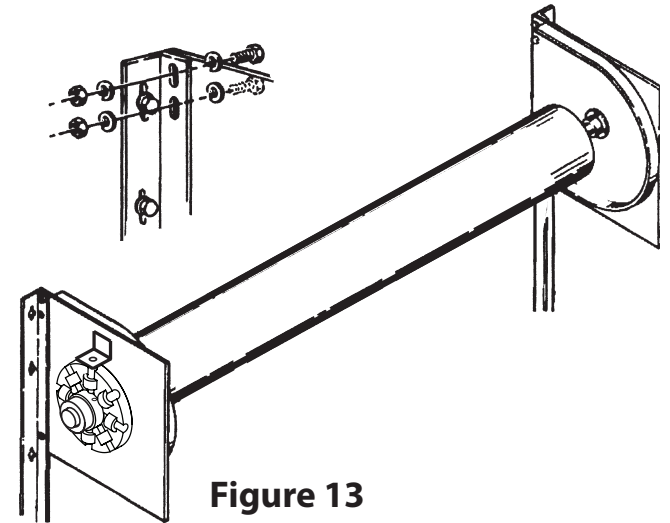

Figure 13
- Bolt heads must be on the inside of the headplate brackets. See Figure 13.